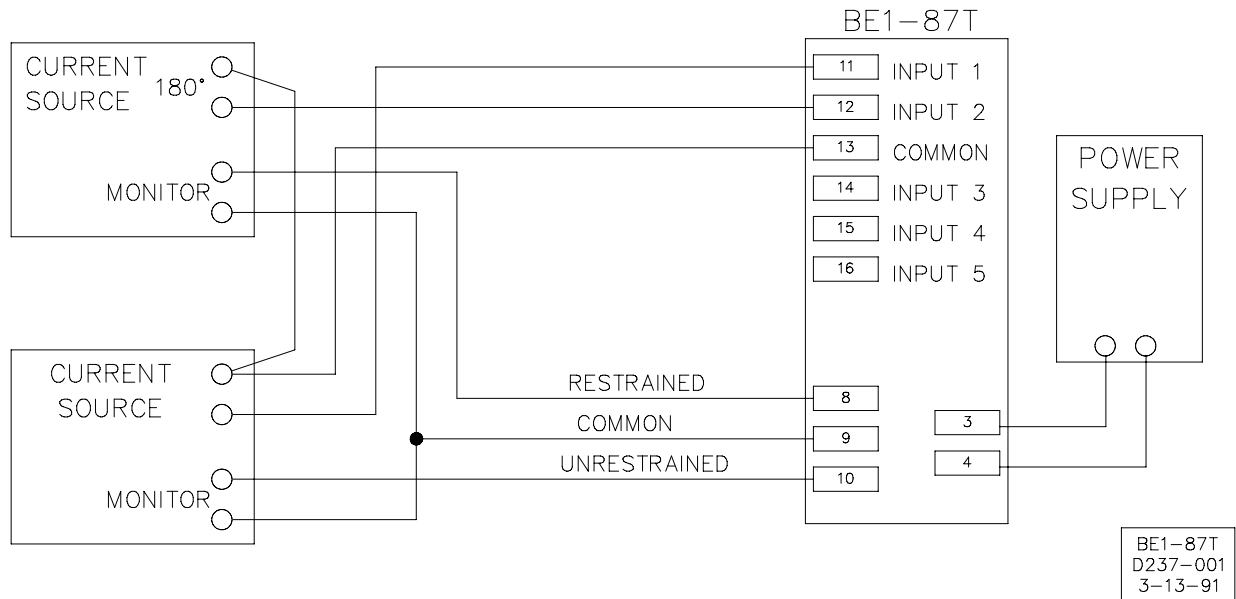

Figure 5-2. Test Setup: Single-Phase
- Step 1.** Connect the relay as appropriate (refer to Figures 5-2 through 5-5) beginning with input terminals 11 and 13 for the initial tests. Do not apply power at this time.
**Step 9. Three-Phase Units Only:** Repeat Steps 6, 7 and 8 for phases B and C. (Refer to Figures 5-2 through 5-5, as appropriate, for the terminal numbers of the phase B and C inputs.)
**Step 2.** Connect the input being tested to the current source, as shown in the appropriate **TEST SETUP**, Figures 5-2 through 5-5.
**Step 1.** Set the **INPUT 1** (tap) switches to the 2.0 A position. Connect the relay as appropriate (refer to Figures 5-2 through 5-5) using terminals 11 & 13 (Input 1 for both single-phase and three-phase units).
- Step 1.** Set the **INPUT 1** (tap) switches to the 2.0 A position. Connect the relay as appropriate (refer to Figures 5-2 through 5-5) using terminals 11 & 13 (Input 1 for both single-phase and three-phase).
- Step 1.** Connect the relay as appropriate (refer to Figures 5-2 through 5-5).